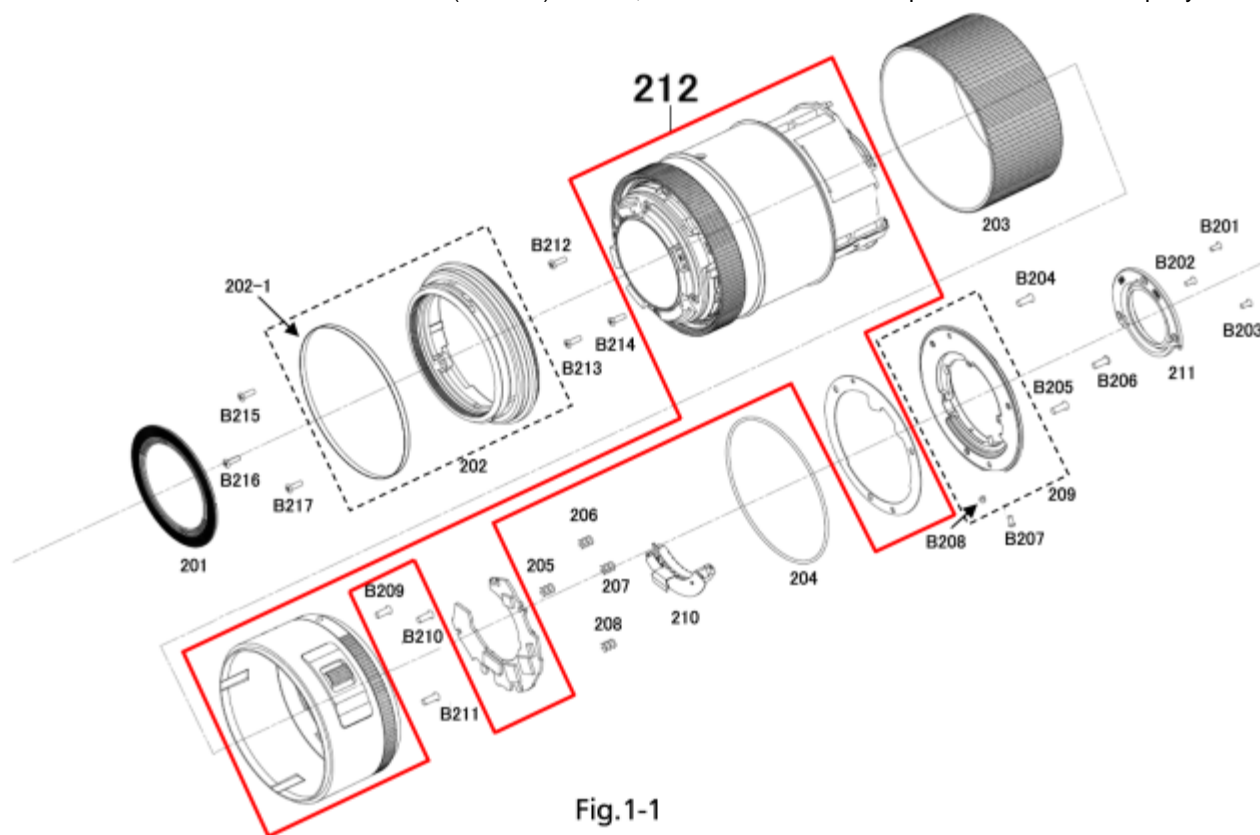

Fig.1-1
4. No adjustment is required when replacing the part mentioned on Fig.1-1. But, when tighten the concerned screws, apply proper torque mentioned on "4. Disassembly and Assembly Instruction" section.